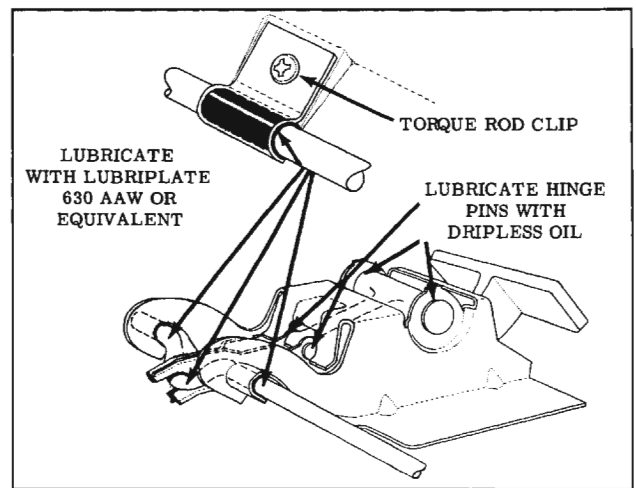
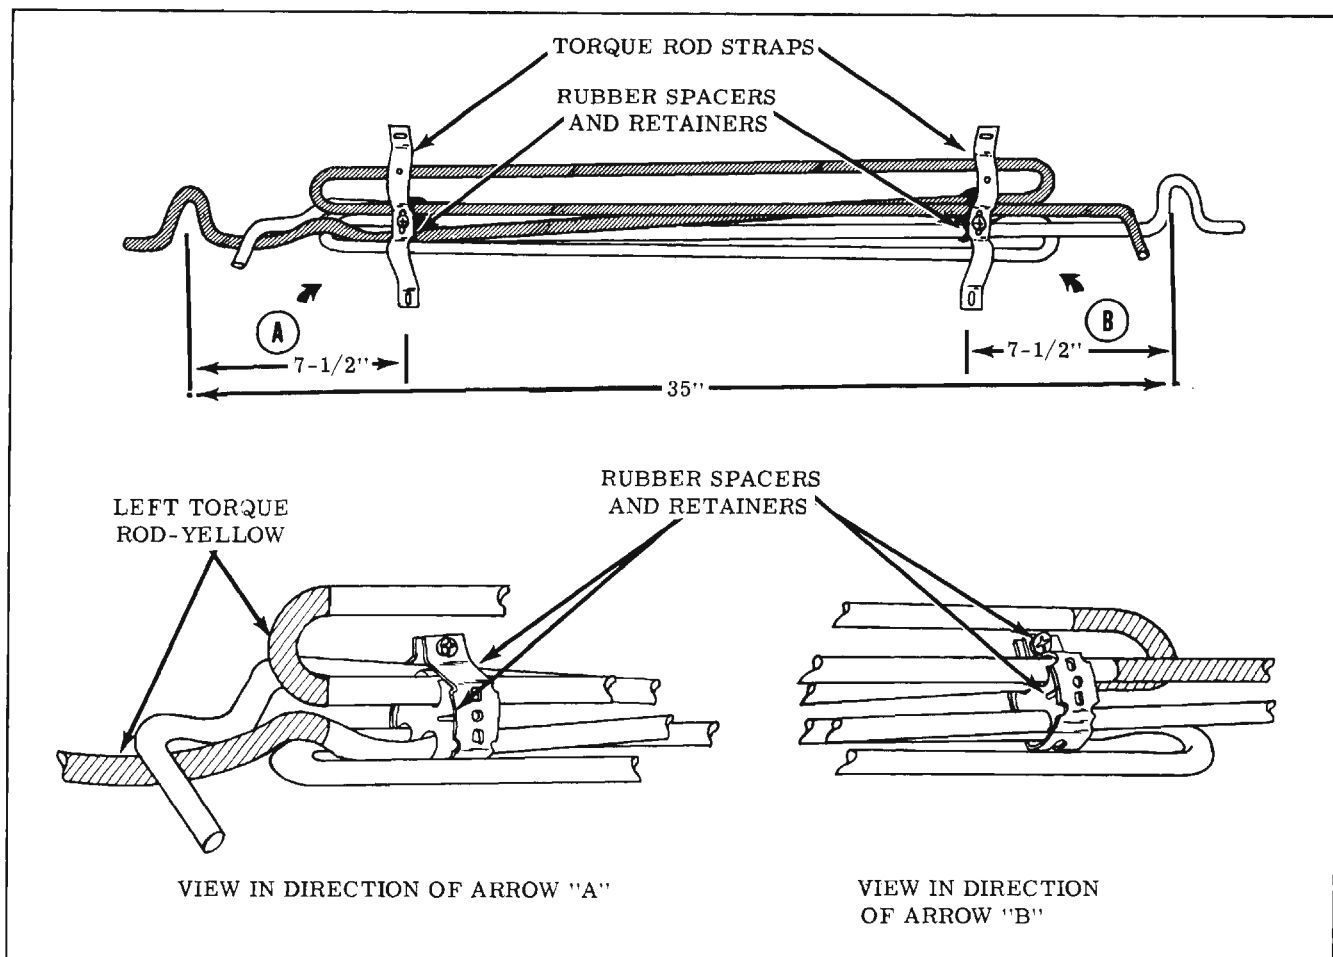

Fig. 16-285 Back Door Hinge and Torque Rod Lubrication
Fig. 16-286 Back Door Hinge Torque Rod
1. Lubricate both right and left hinge pivot pins with an approved dripless oil. (Fig. 16-285)
NOTE: When installing hinge, make certain torque rod is properly engaged with hinge (Fig. 16-285) and align torque rod retainer with previously made marks.
2. Remove both torque rod rubber spacer retainers (Fig. 16-286); then, disengage torque rods from rubber spacers.
1. Assemble torque rods, as shown in Fig. 16-286. Both ends of the left torque rod are color coded (yellow).
**IMPORTANT:** Dimensions, shown in Fig. 16-286, between hinge attachment locations of torque rod assembly (35 inches) and between rubber spacer and hinge attachment location of torque rod (7-1/2 in.) must be maintained to assure that assembly will align with hinges in body and torque strap attachment holes in body.
1. Check that torque rods are properly assembled, as shown in Fig. 16-286. Lubricate both right and left hinge pivot pins with an approved dripless oil. (Fig. 16-285)